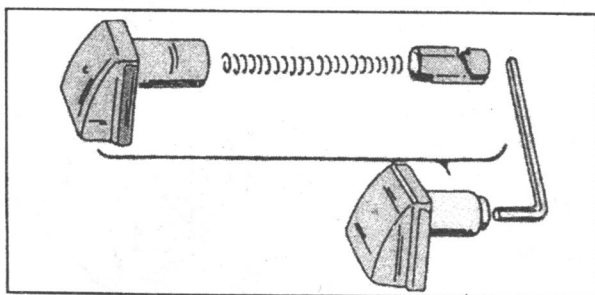

Fig. 1.38. — The Renold chain tensioner.
- Insert a 3 mm Allen key as shown in Fig. 1.38 into the internal hexagonal bore and rotate the key until the tensioner is locked. In this position fit the glide pad into the tensioner body.